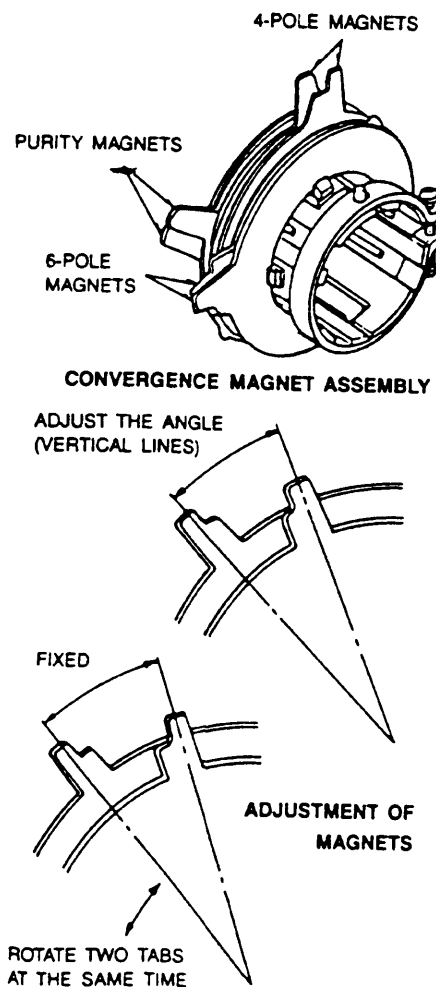
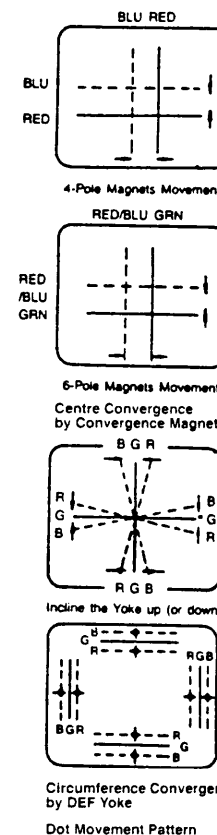

Fig 2.
Fig 3.
- Adjust two tabs of the 4-pole Magnets to change the angle between them (see fig 2) and obtain a blue vertical line in the centre area of the picture screen (see fig 3).
- Turn both tabs at the same time keeping their angles constant to superimpose red and blue horizontal lines at the centre of the screen, (see fig 3).
- Tilt front of the deflection yoke up or down to obtain better convergence in circumference (see fig 2). Push the mounted wedge into the space between picture tube and the yoke to hold the yoke temporarily.
- Tilt the front of the yoke right or left to obtain better convergence in the circumference (see fig 3).